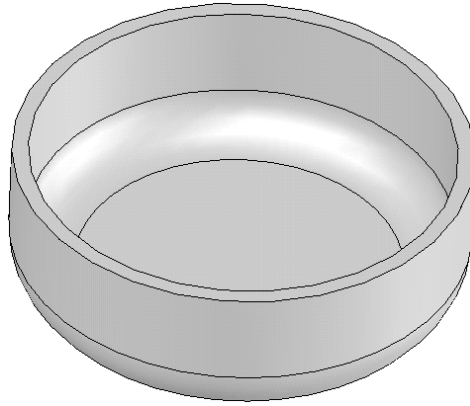

Figure 9-67 Shell feature added to the model
- Shell the model using the **Shell** tool, refer to Figure 9-67.
3. Choose the **OK** button from the **Shell1 PropertyManager**. The model, after adding the shell feature, is displayed in Figure 9-67.